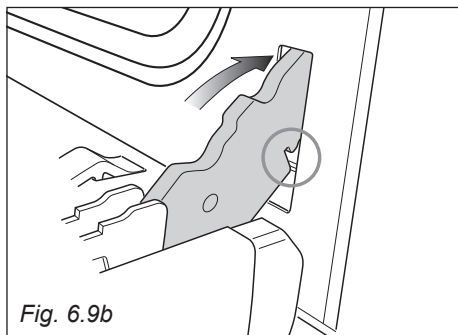

Fig. 6.9b
2. Insert the hinge tongues into the slots, making sure that the groove drops into place as shown in the figure 6.9b.